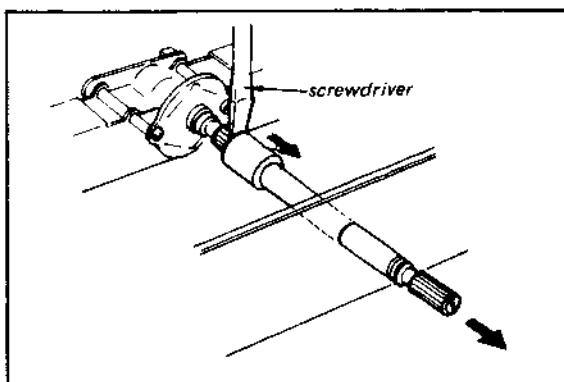

Fig. 2-9. Switch shaft removal
2. Fasten the dia. cord to the drum, valleys with telephone tape as shown in Fig. 2-9.